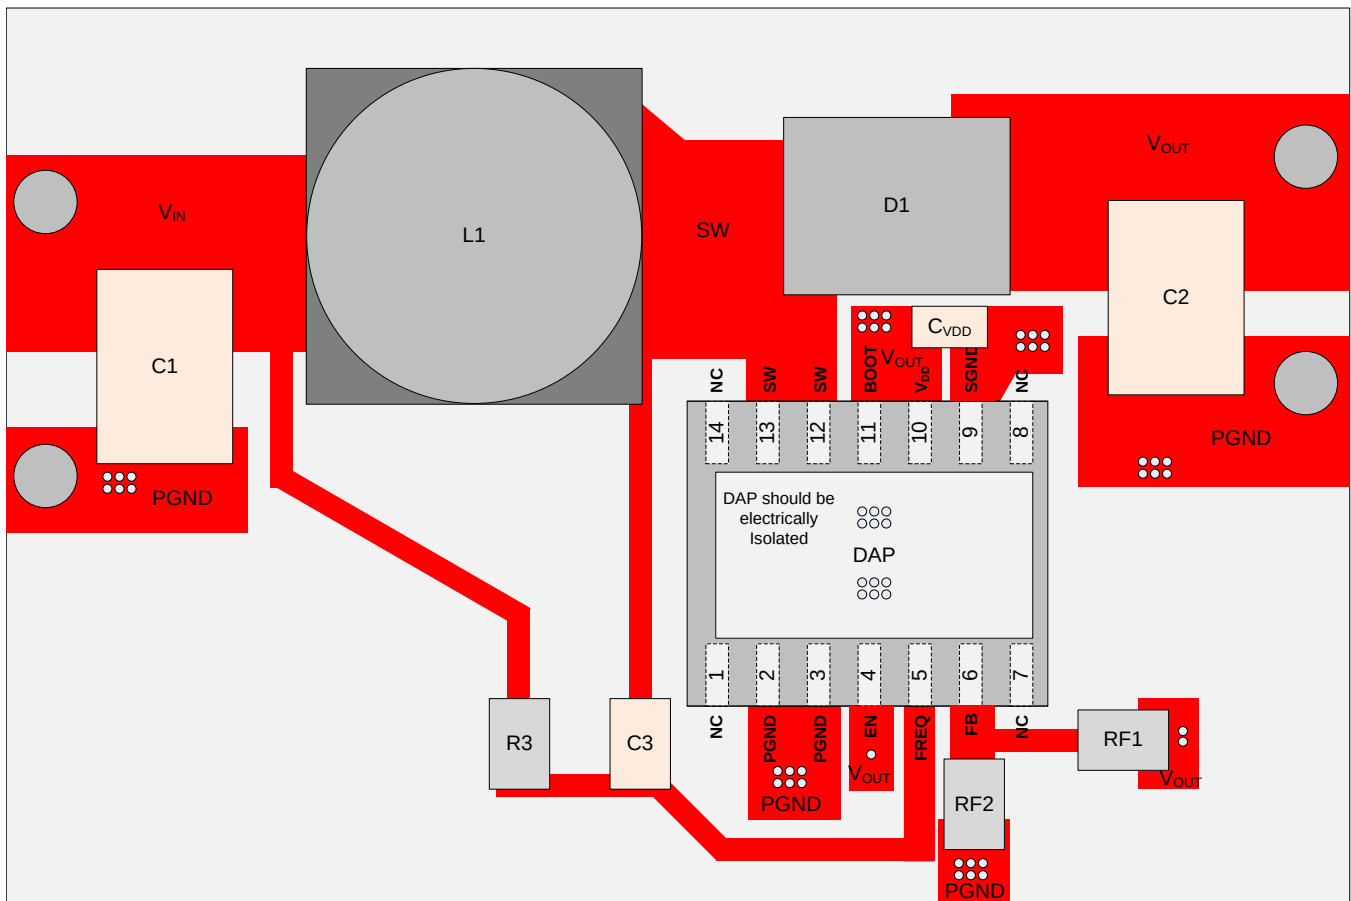

图 12. LM2623-Q1 Layout Example
**Figure 12** follows proper layout guidelines — use as a guide for laying out the LM2623-Q1 circuit. The LM2623-Q1 inductive boost converter sees a high switched voltage at the SW pin and a step current through the Schottky diode and output capacitor each switching cycle. The high switching voltage can create interference into nearby nodes due to electric field coupling ($I = C \times dV/dt$). The large step current through the diode and the output capacitor can cause a large voltage spike at the SW and BOOST pins due to parasitic inductance in the step current conducting path ($V = L \times di/dt$). Board layout guidelines are geared towards minimizing this electric field coupling and conducted noise.